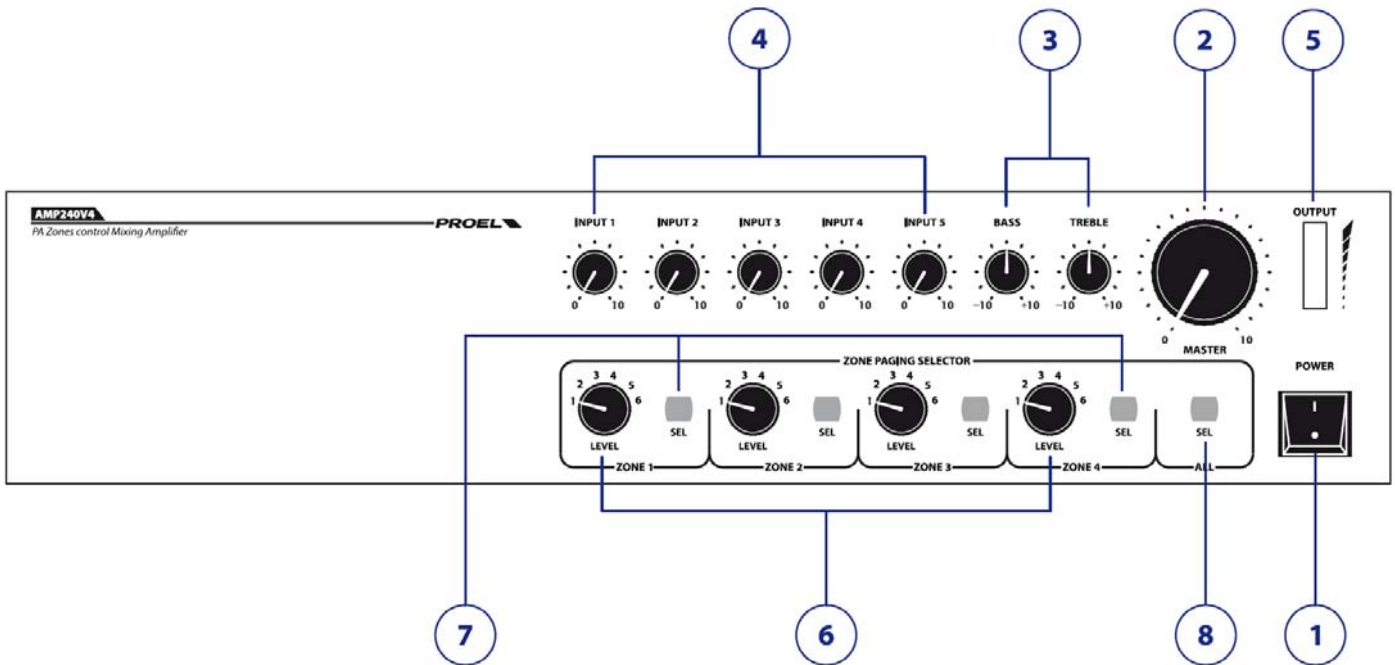
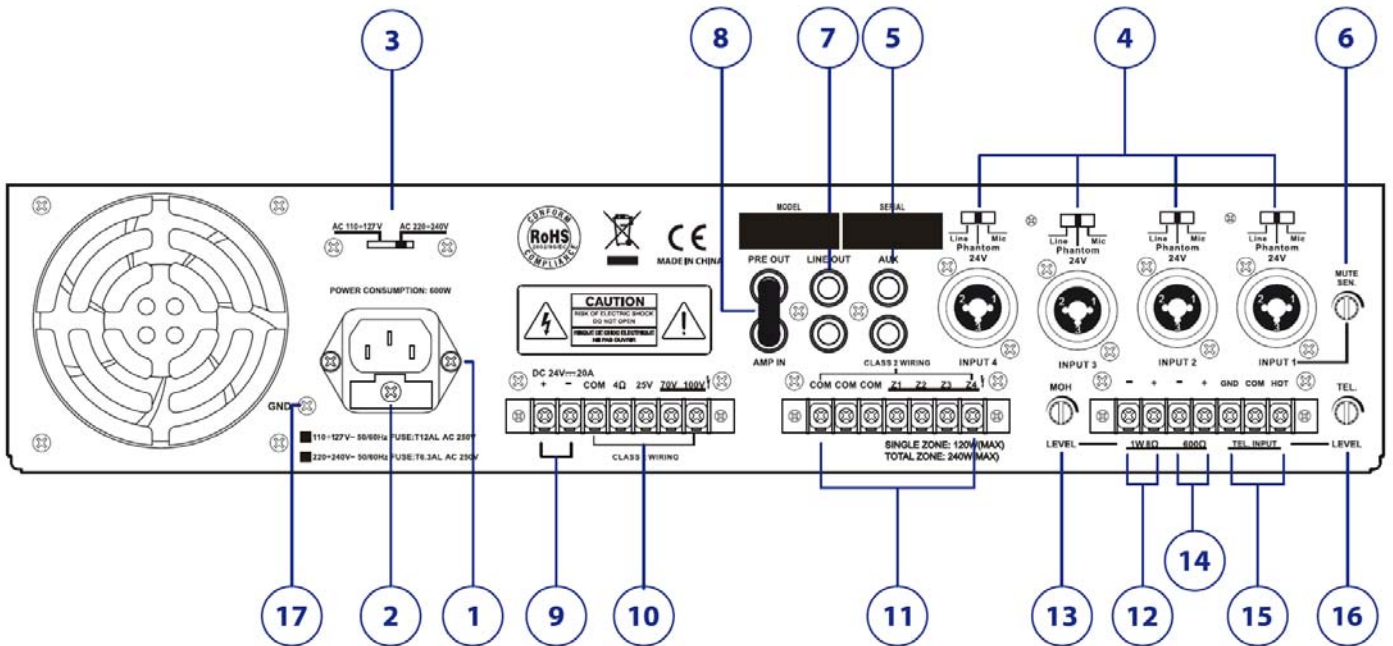

fig.1
fig. 2
This output allows you to connect a speaker (monitor), driven from the unit internal 1W amplifier, reproducing AUX IN signal. Output signal is set by INPUT 5 volume control (**fig.1 rif.4**), or by rear panel MOH LEVEL trimmer (**fig. 2 ref. 13**)
Revert to **(fig.1 ref.4)** set Input level. For microphone with Phantom power set PHANTOM switch on position ON **(fig.2 ref.4)**.
Revert to **(fig.1 rif.4)** set GAIN level and set PHANTOM switch on position ON **(fig.2 ref.4)**.
Revert to **(fig.2 ref.5)**
To access to speaker connection terminals remove the protection cover unscrewing the correspondent screws (**fig.2 ref. 5, ref. 6**).